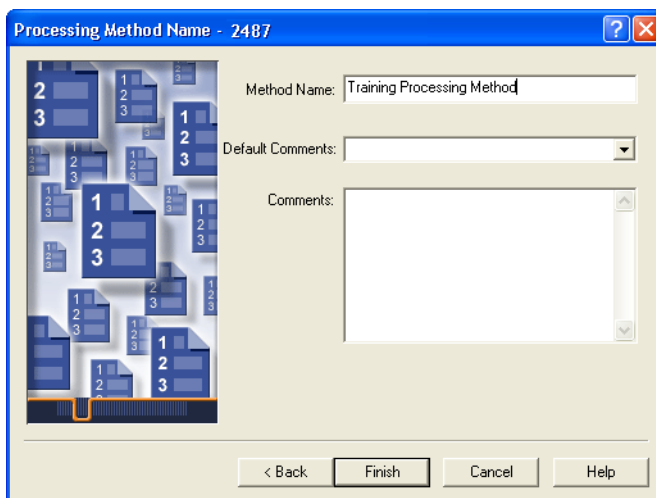

Figure 4-30 Processing Method Wizard, Processing Method Name Page
18. Accept the default selection of **External Standard Calibration**, then click **Next**. The Processing Method Name page appears (Figure 4-30).